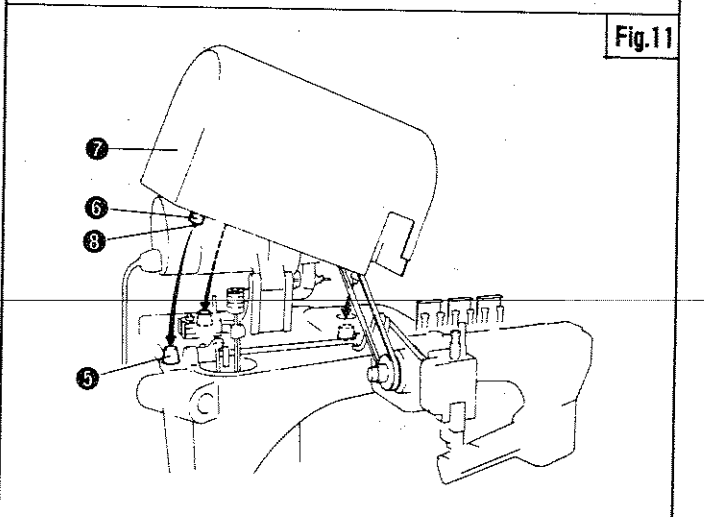

Fig.11
MOTOR COVER INSTALLATION (Fig. 11)
Refer to Fig.11 and fit ⑤~⑦ in sequence.
- Collar ⑥ is used to adjust the height of Motor Cover ⑦.
- When attaching Collar ⑥ to Support Shaft ⑧ of Motor Cover, adjust the height of Motor Cover so that a clearance is made between Pedestal Pin and Support Shaft to prevent vibration.